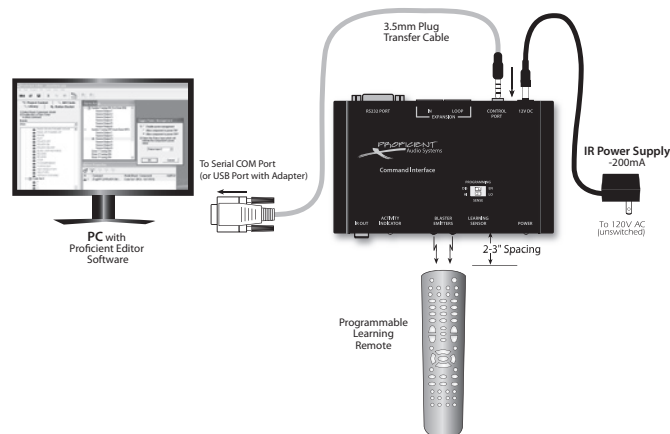

Figure 22 Programming Learning Remotes
The **Command Interface** (Figure 22) is an Installer's optional tool that permits the learning of IR code and other special functions in the shop, before programming the M4 or other Proficient models.
1. Connect your computer's DB9 COM Port via the **Transfer Cable** to the **Command Interface** CONTROL PORT. (Refer to Figure 22 for connections. Use the **USB / Serial Adapter** with the **Transfer Cable** for USB port interface, if necessary).
First, you should complete all programming for your project. Once that is done, plug the **Transfer Cable** into the **CONTROL PORT** of the **Command Interface** Module as shown in Figure 22. Then proceed as follows:
- Point the learning remote directly at the BLASTER EMITTERS on the **Command Interface** (spaced 2" to 3" as shown in Figure 22) and activate its **learn mode**.